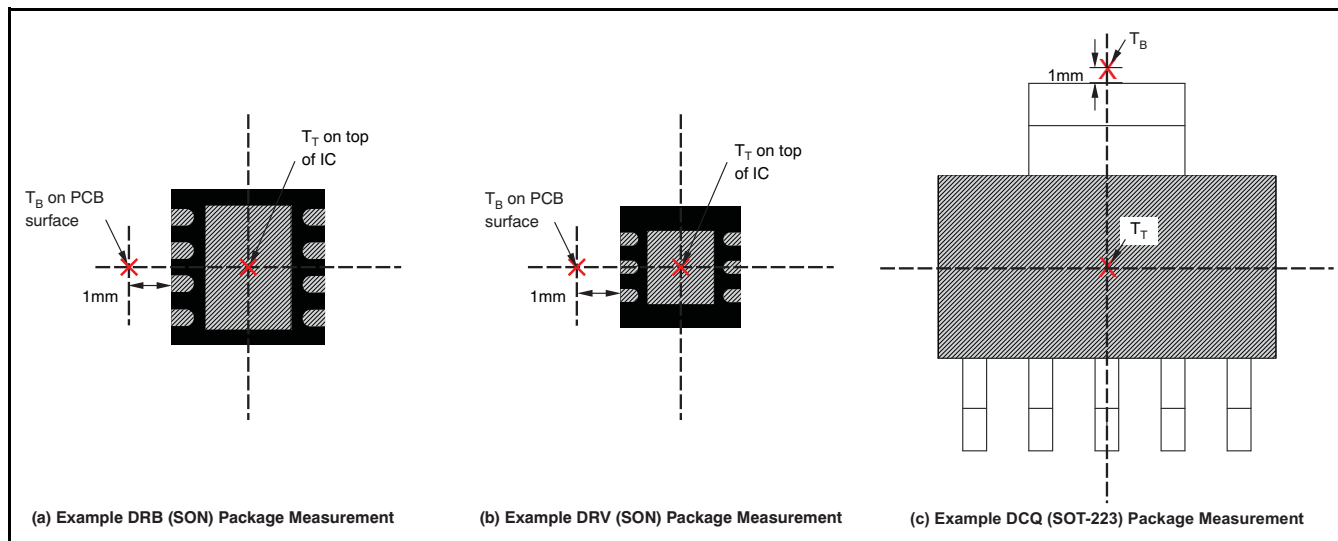

Figure 35. Measuring Points for T_T and T_B
Where P_D is the power dissipation shown by Equation 6, T_T is the temperature at the center-top of the IC package, and T_B is the PCB temperature measured 1mm away from the IC package on the PCB surface (as Figure 35 shows).
- Corrected typo in Figure 35 16